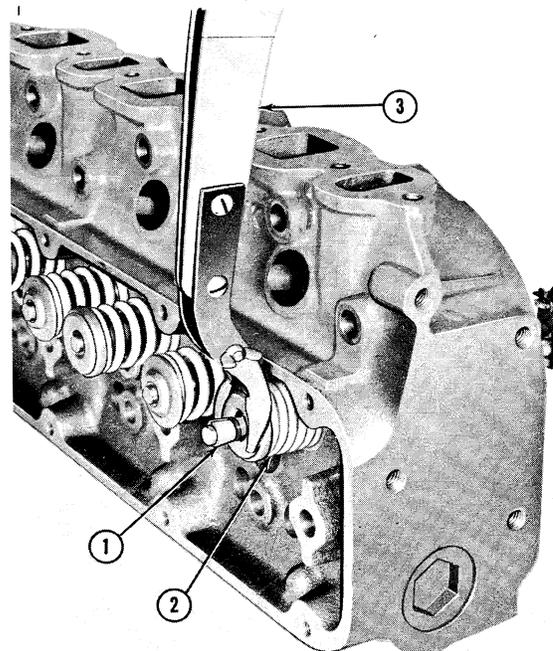
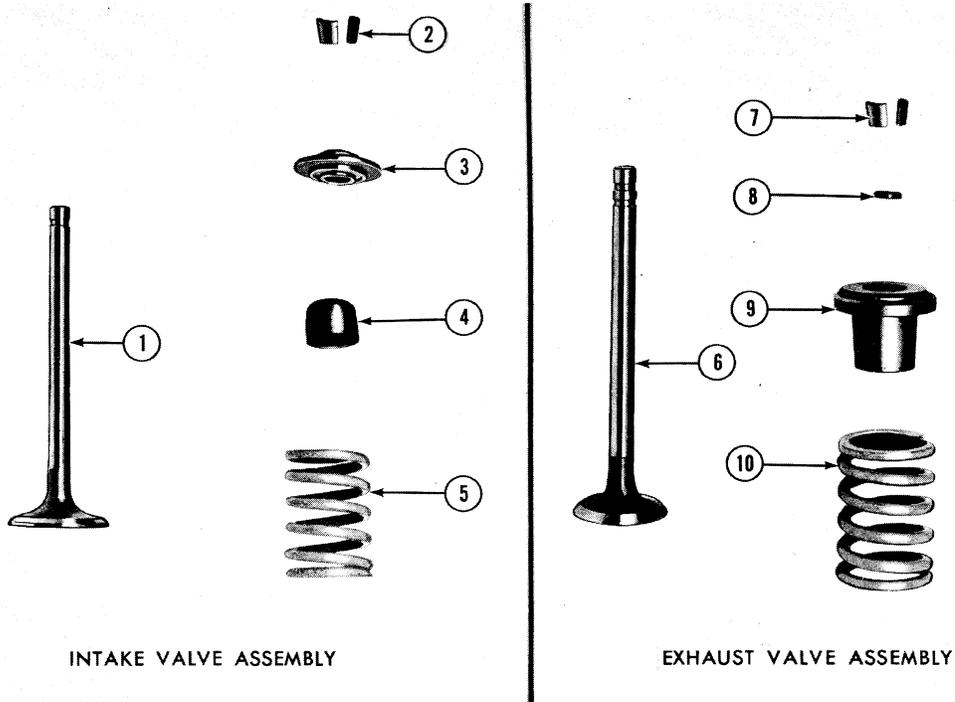

Figure 5
Figure 6
- Clean the head thoroughly and then with a valve spring compressor, Figure 5, remove the retainer locks, spring retainer, spring and valve stem seal, Figure 6.